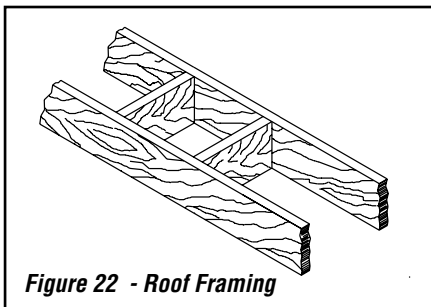

Figure 22 - Roof Framing
1. Cut and frame the holes in the ceiling, floor and roof where the chimney will pass (see **Figure 22**). Use a plumb-bob to line up the center of the holes. The sizes are indicated in **Table 2** for the floor and ceiling holes and **Table 3** (Page 17) for the roof holes.